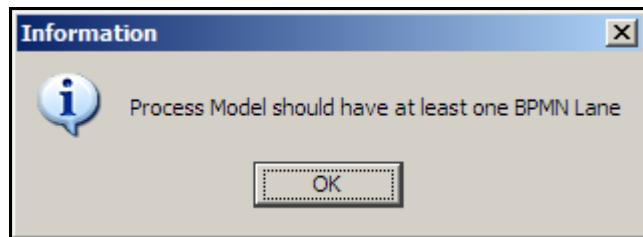

Figure 50: Delete Alert
- Else, the following screen is displayed (see Figure 50).